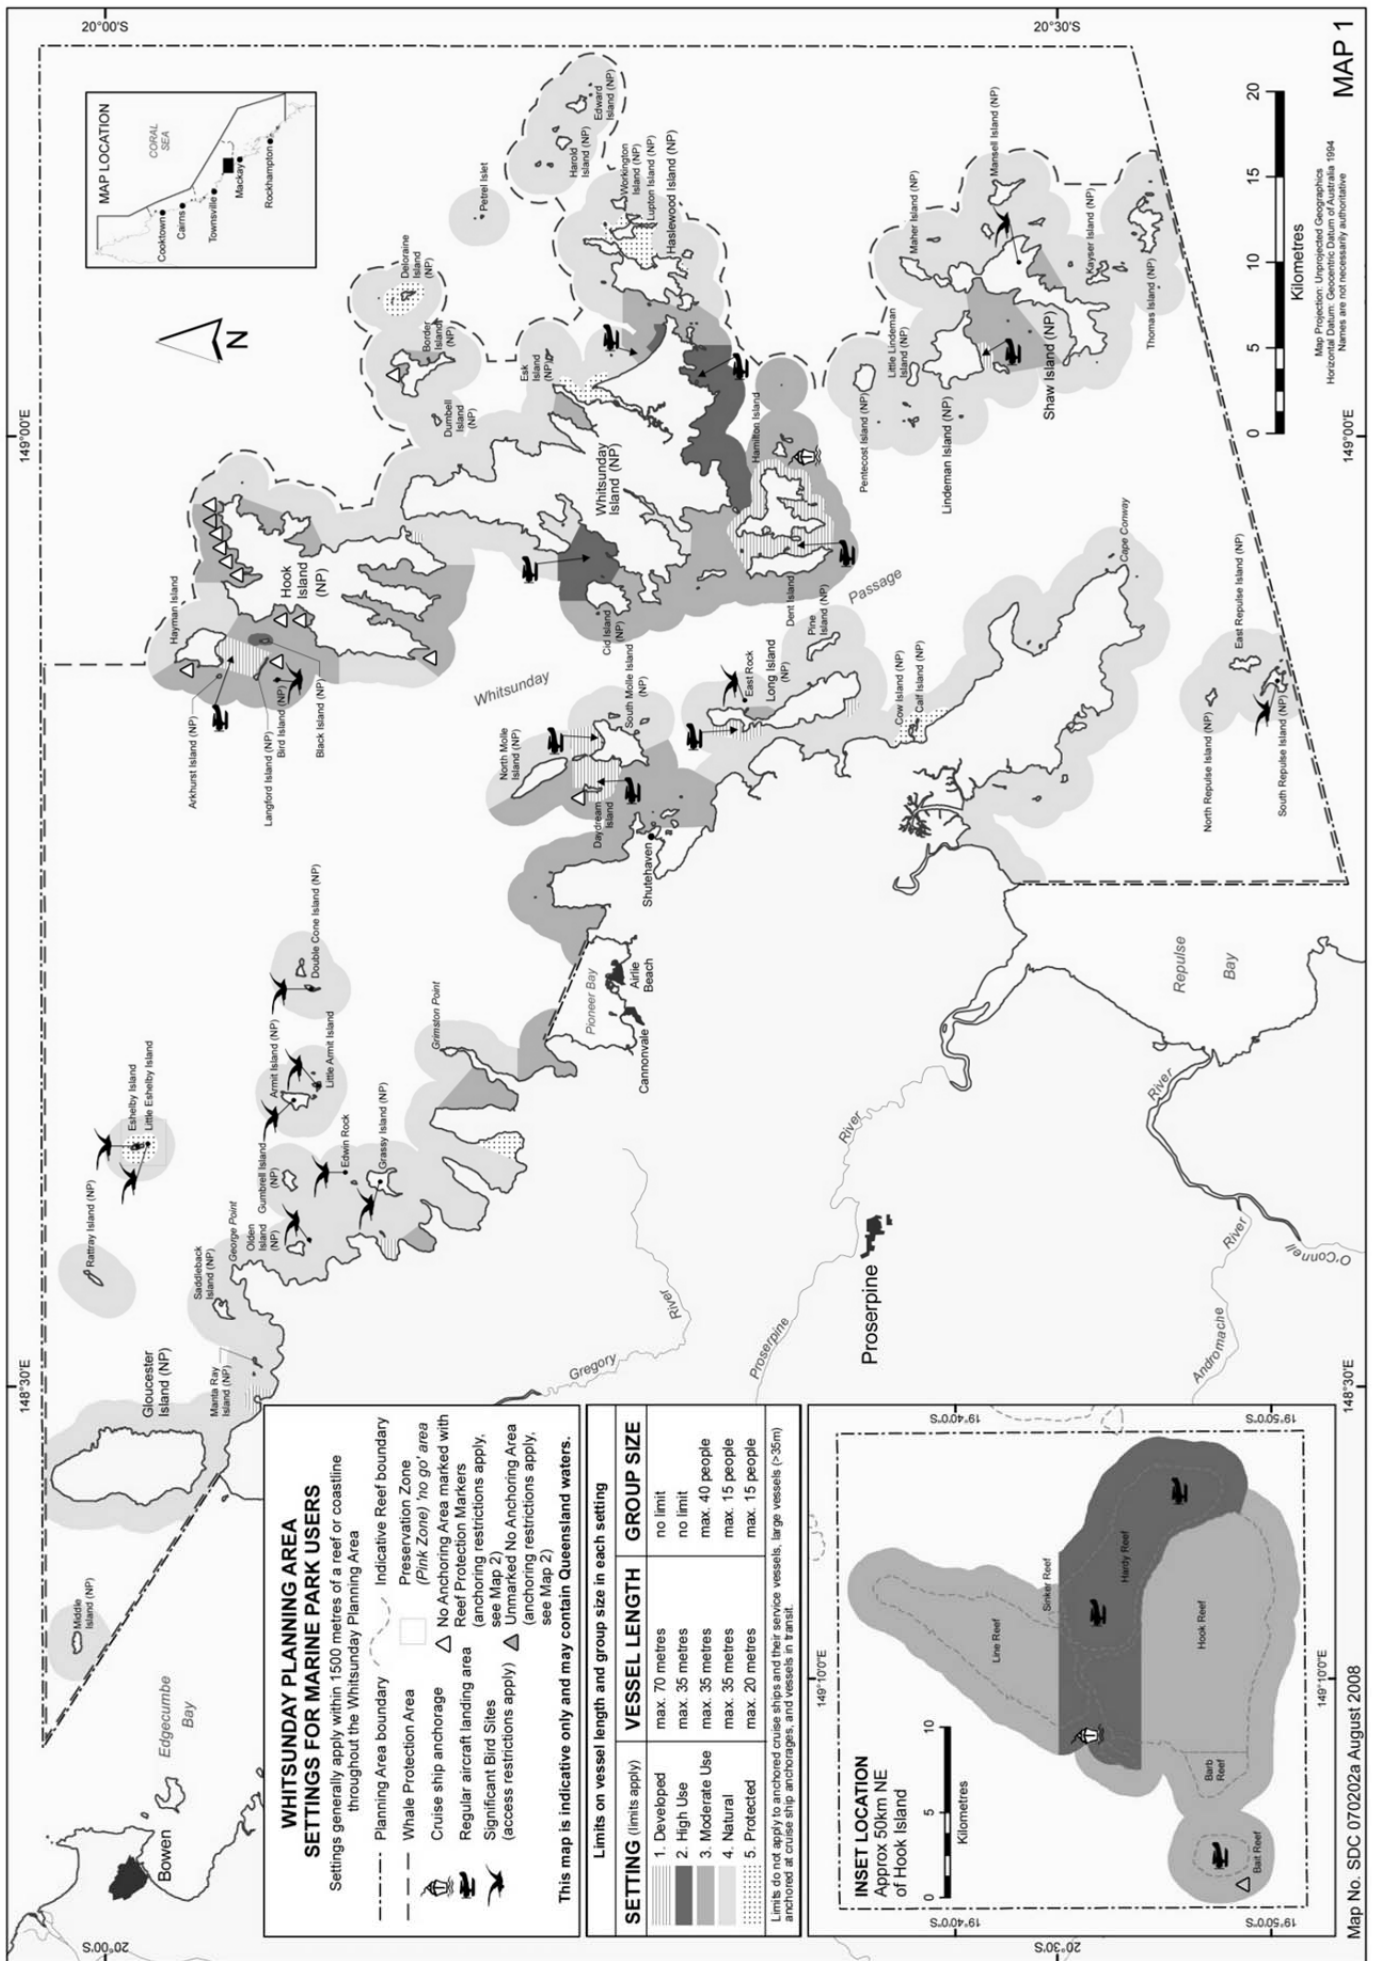

Figure 4 Whitsunday Planning Area Settings Map
Within the Whitsunday Planning Area, the overall **setting of an area** is managed by defining the size of group that can visit the area and the vessel length. See the Setting Areas map (Figure 4 on page 12) and the GBRMPA website at <http://www.gbrmpa.gov.au/zoning-permits-and-plans/plans-of-management/whitsunday-plan-of-management/guide-to-visiting-the-whitsundays-plan-of-management-area-for-recreational-users/what-you-need-to-know>
- Whitsunday Planning Area Settings map (Figure 4 on page 12)